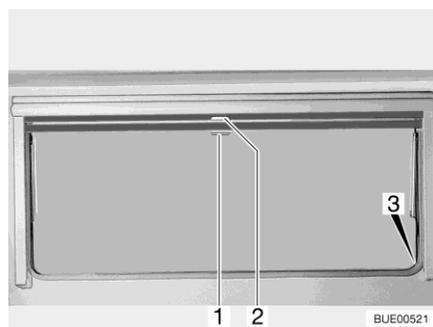

Fig. 77 Hinged window
- Pull blind at the handle (Fig. 77,2) downwards. If the blind is to be completely closed, it is suspended into the locking devices (Fig. 77,3) situated on both sides of the window frame.
- If the blind is completely closed: Press handle (Fig. 77,2) downwards and, at the same time, tilt it slightly inward. The blind can be taken out of the locking devices situated on both sides of the window frame.
- If the blind is in an intermediate position: Pull the handle (Fig. 77,2) slightly downwards until the locking device releases.
- Pull insect screen at the handle (Fig. 77,1) down and hang it into the locking devices (Fig. 77,3) situated on both sides of the window frame.
- Press handle (Fig. 77,1) downwards and, at the same time, tilt it slightly inward. The insect screen can be taken out of the locking devices situated on both sides of the window frame.